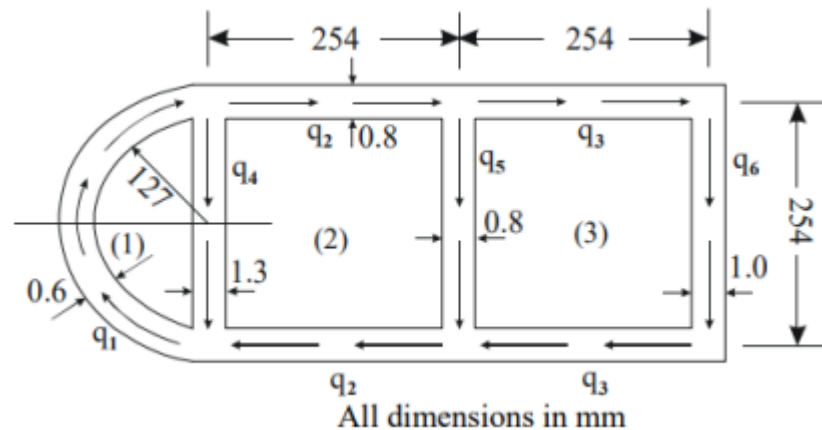

Fig:1
11. A tubular section having three cells as shown in the figure 1 is subjected to a torque of 113 kN-m. Determine the shear stresses developed in the walls of the section.